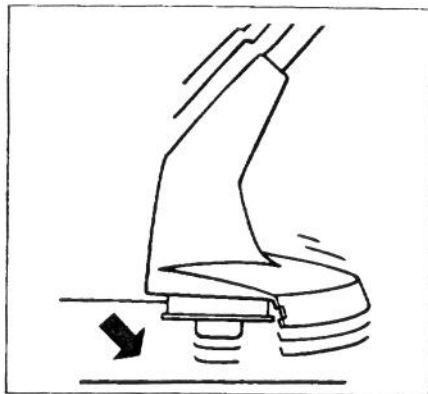

Figure 15
1. To lengthen line, firmly tap spool on the ground while the motor continues to run. The line will be fed from the spool and cut off to the proper length by the cutting knife attached to the shield (Fig. 15).